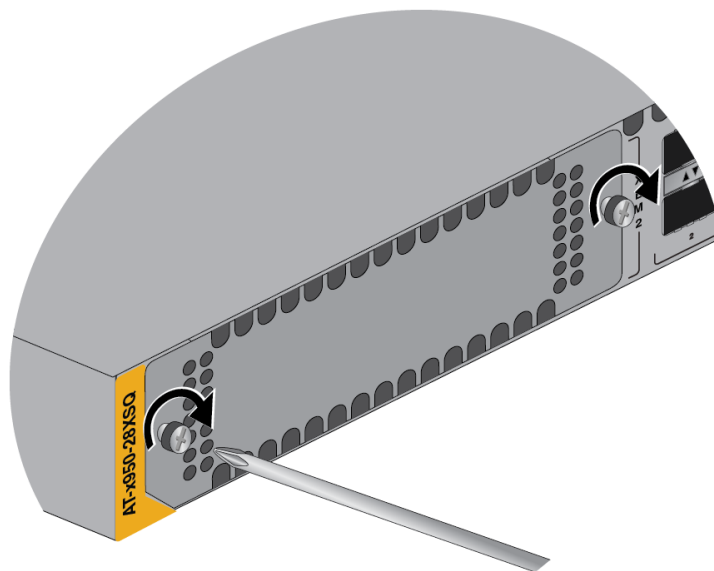

Figure 142. Tightening the Two Screws on the Line Card Blank Panel
10. Tighten the two screws to secure it to the switch. Refer to Figure 142.